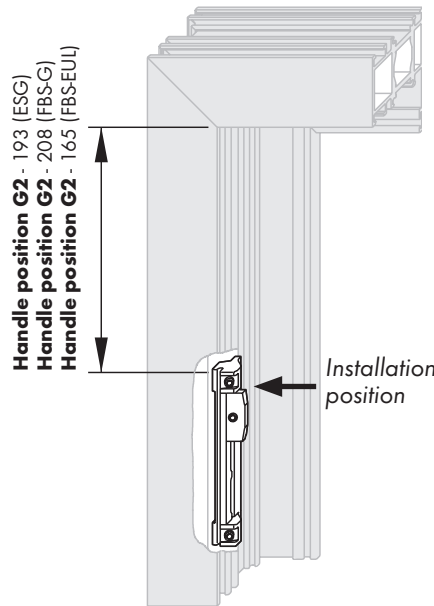

Fig. 3
Frame	Position the ALU turning lock (826) as specified (Fig. 3) and fix in place using grub screws (torque 1.5 ± 0.25 Nm).